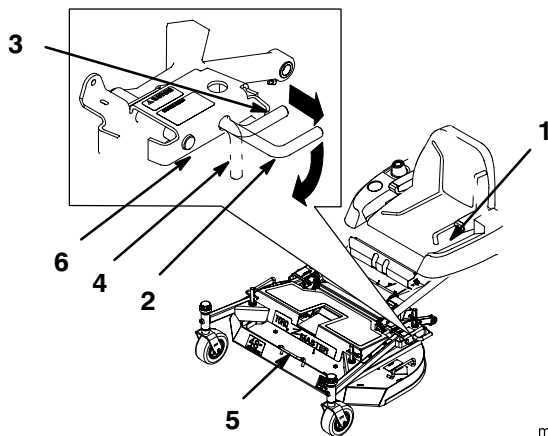

Figure 20
3. Pull out on latch pin to release and rotate into notch to hold in the unlocked position (Fig. 20). Repeat on the other side.
1. Pull out latch pins and rotate into notch to hold in the unlocked position (Fig. 20).
3. Rotate latch pins into released position and lift on side of carrier frame near latch pin until latch pin engages (Fig. 20). Repeat on the other side.